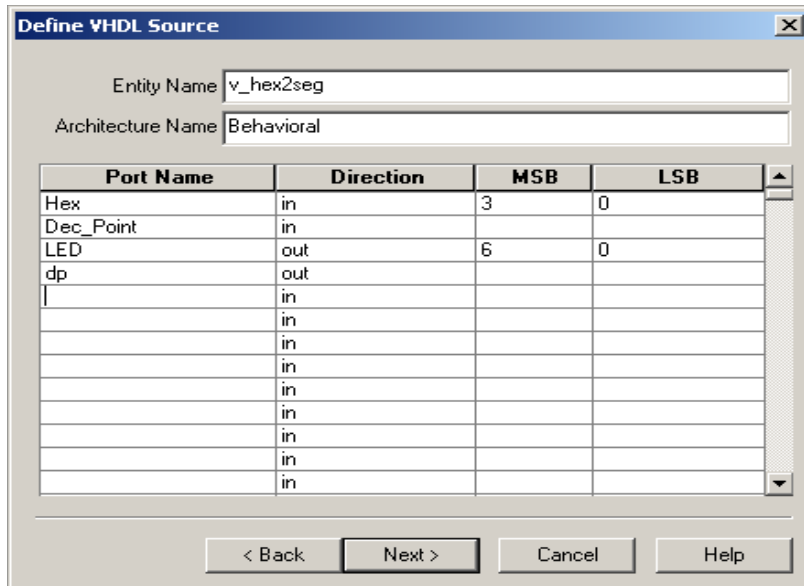

Figure 5
5. On this dialog box you can define the IO interface of your design. Use Fig. 5 as a guideline and click on next and click on finish on the next screen.